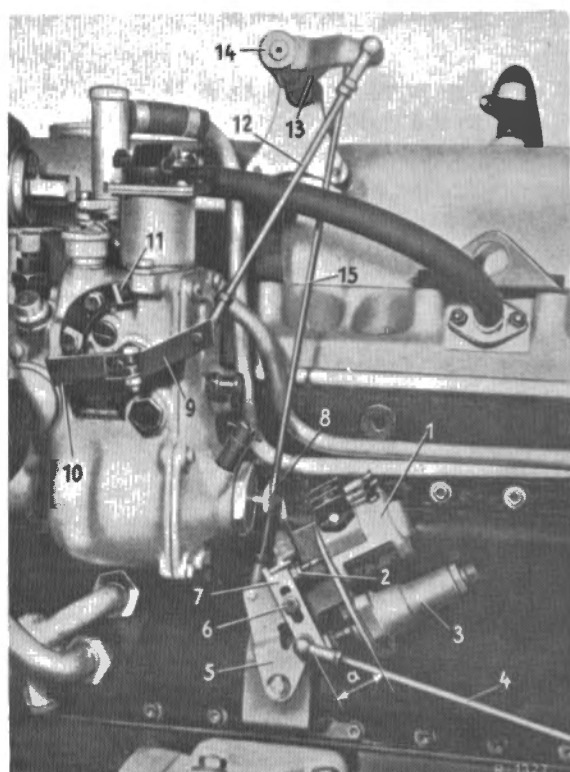

Fig. 00-16/20
the basic setting should be carried out as follows: Check the operations again as described in Section a. Shift the selector lever to position "0" and adjust the steering to center position. Then check the dimension "a" (see Fig. 00-16/20) from the separating surface of the bracket to center yoke end and if necessary correct. The dimension "a" should be 35 mm. Loosen the hexagon screw (6) and push it into the center of the slot in the lever (7) and retighten.